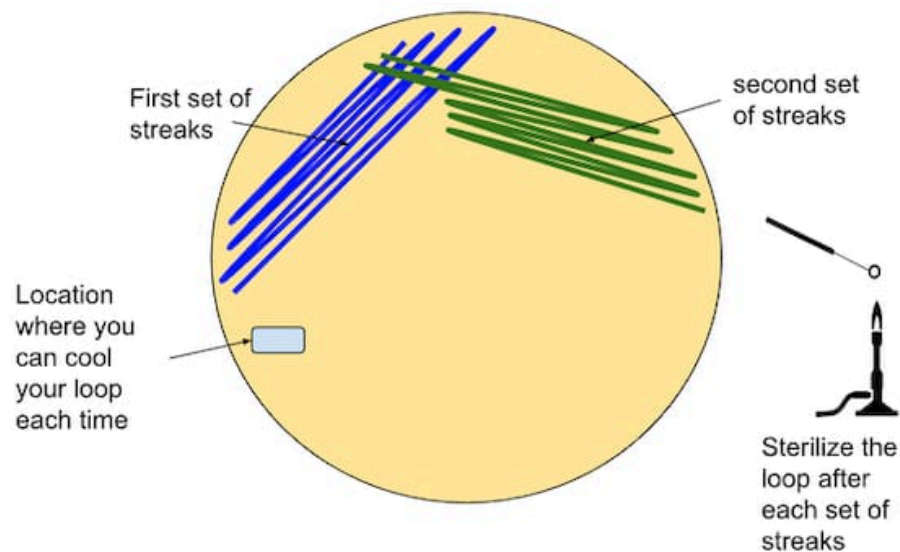

Figure 5.10
3. Create the second streaks following the pattern below. Be sure to pass the loop through the original (1st) streaks 1-5 times in order to spread the bacteria out further (Figure 5.10)